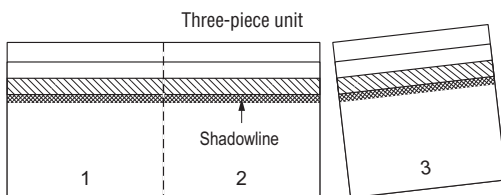

Figure 12-18: Separate to make 3 cap shingles.
2. Install caps beginning at the bottom of a hip or at either end of a ridge. Apply a starter piece that has the bottom 5" (5⁵/₈" for metric) removed (Figure 12-18). Fasten the starter with two nails located about 3" from the rake edge, and 1" in from each side edge. Make sure fasteners used to apply caps penetrate at least 3/4" into or through the decking.
3. Apply a full cap shingle over the starter (*Figure 12-18*), and place fasteners at $5\frac{5}{8}$ " ($6\frac{1}{4}$ " for metric) up from the exposed bottom edge and 1" in from each side. Nails must not be exposed on the finished roof. All nail heads must be driven straight and must not cut into the shingle surface.
Use Cedar Crest accessory shingles to cover hips and ridges. Carefully separate the three-piece units prior to application, by first folding along the pre-cut lines and then detaching the pieces (see Figure 12-18). No cutting is necessary. There are 30 individual shingles (10 three-piece units) in each bundle. One bundle will cover 20 linear feet. Each 12" x 12" shingle has a shadowline that is a design feature which is visible when applied properly. To prevent shingle damage during application, they must be sufficiently warm to allow proper forming.